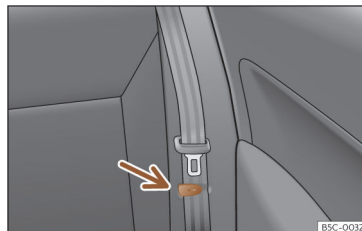

Fig. 111 Rear seat: clip to hold the seatbelt in place.
- Place the side seat belts in the trim clip »» Fig. 111.